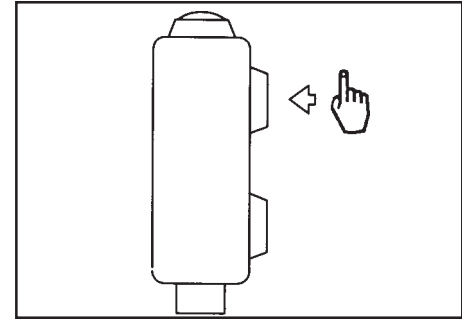

Figure 33
5. The machine has a one touch button on the joystick (see figure 33) that is preset for brush pressure and solution flow. Momentarily depress the one touch button if you wish to use these settings. **NOTE: If this is not the settings that you desire see page 16 or one touch operation.**